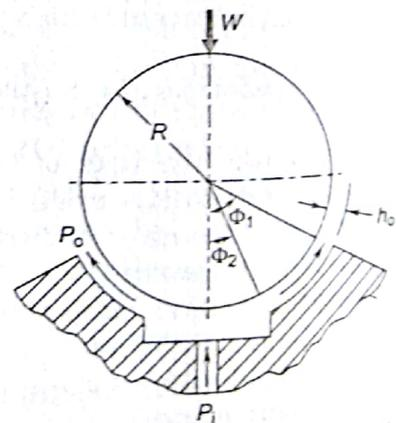

Fig. 16.37 Spherical step bearing
16.4 ③ A hydrostatic spherical step bearing is shown in Fig. 16.37. Show that the load carrying capacity of the bearing is given by [LO 3]